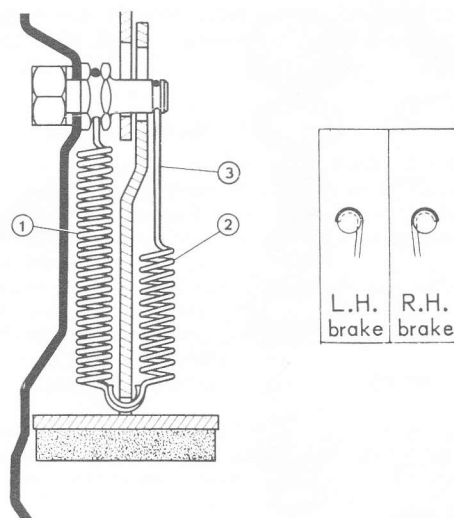

FIG 10:10 Brake shoe return springs
Key to FIG 10:10 1 Inner springs 2 Outer springs. Note that the spring hook for lefthand and righthand brake is different, to prevent chafing of the wire 3, against the brake cylinder
The outer return springs (see item 2 of **FIG 10:10**), are different for the left- and righthand brakes. The spring hook position on the spring differs, to prevent chafing of the spring wire against the brake cylinder boot (see **FIG 10:10**).